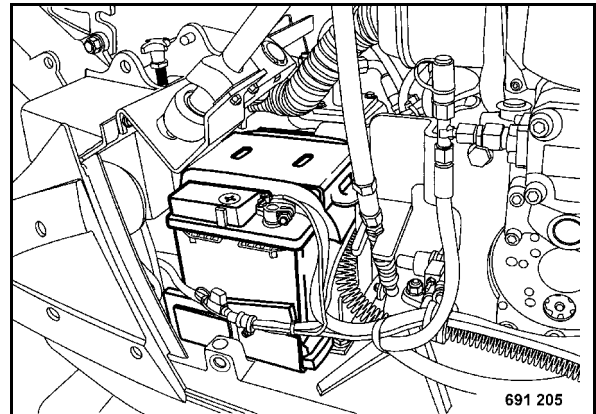

Fig. 52
- Unscrew the battery holder (Fig. 52).